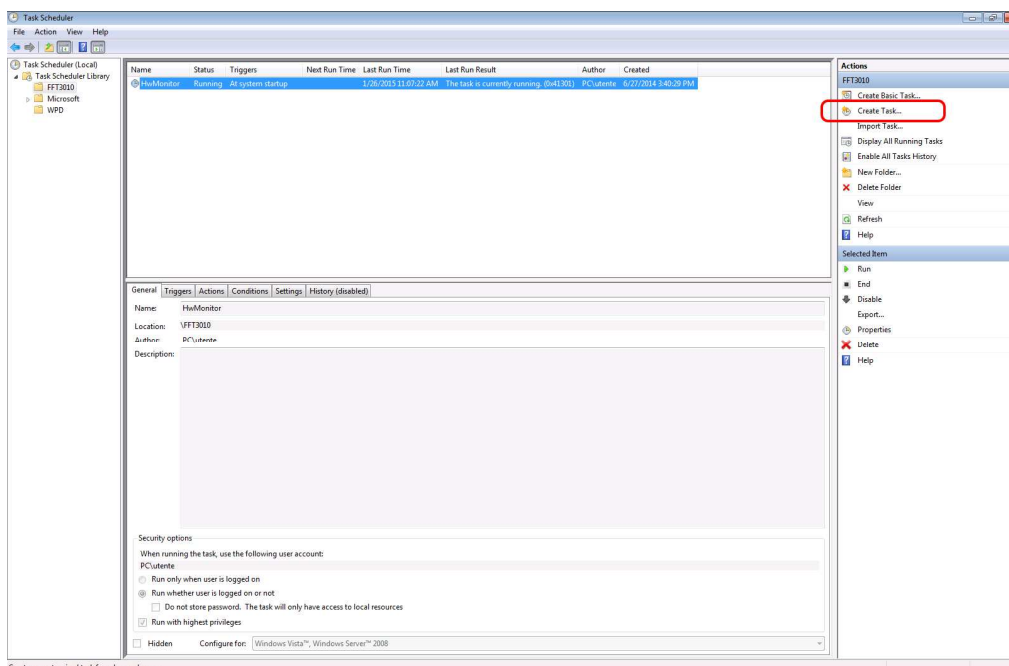

Fig. C.22: Creation of a new task
STEP 2 – Create a new task (*Create Task...*) either with mouse right-click or with the command in the right panel (Fig. C.22).